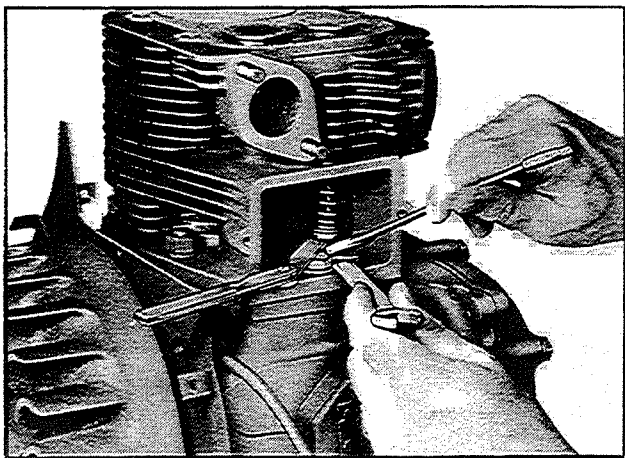

Fig. 42
#### TAPPET ADJUSTMENT (Fig. 42)
*Tappet adjustment* can be made immediately after assembling the valves, springs and locks, see Fig. 42. With the tappets in their lowest position and the engine cold, the clearance should be: